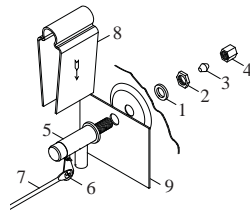

Fig. 6
- **Pump.** The pump must be secured to prevent it from tipping over. Secure the pump to the pump mounting bracket (item 16 in parts drawing). Remove a nut located under the head of the pump, place the pump bolt through the hole in the mounting bracket, and secure with the nut that was previously removed. Plug pump into receptacles. Retain pump cords to internal braces to prevent cords from dropping into water reservoirs or contacting moving components.
- **Float valve.** Refer to Fig. 6 to install float. Remove items 1, 2, 3, and 4. Insert float body (5) through hole in splash plate (9) and back post panel closest to access panel as shown. Install washer (1) and nut (2). Tighten